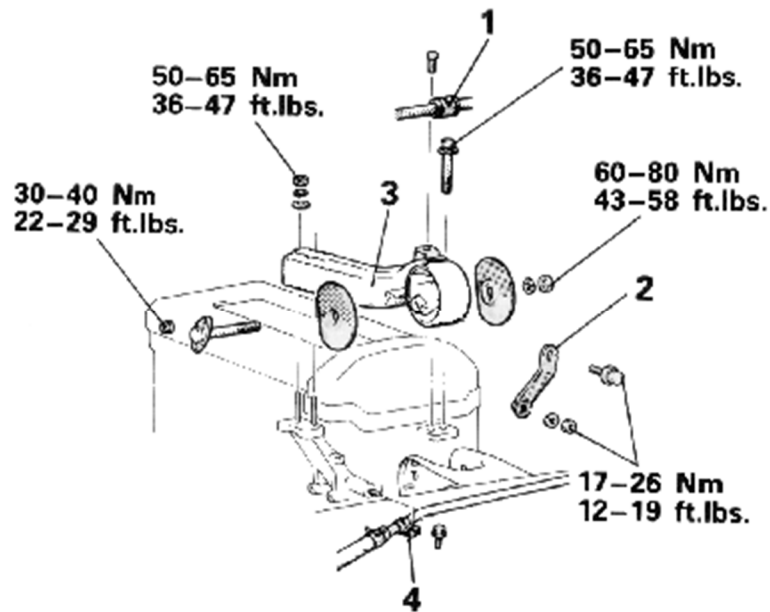

Figure 1
2. Support engine with engine support fixture, tool #C-4852 or #7137, and remove the left engine mount and bracket (Figure 1).